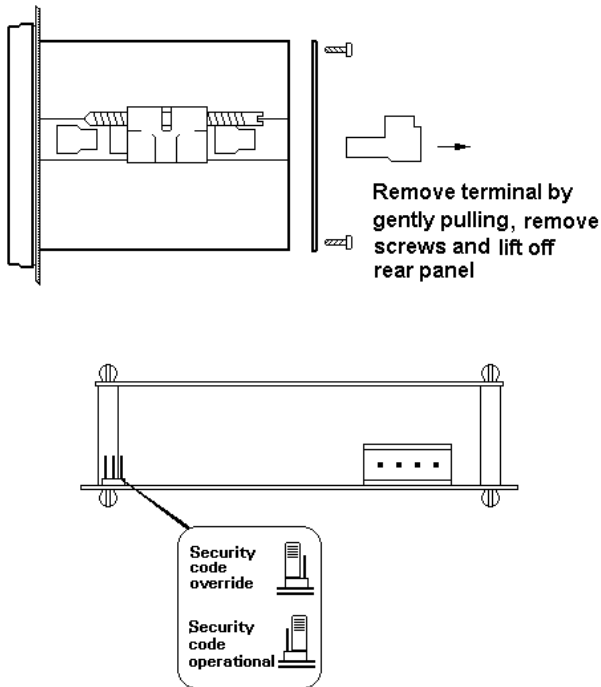

Fig 7 Location of security code override link
To gain access to the security code link, remove the instrument terminal block(s) by gently pulling. Unscrew the four corner screws securing the rear panel and lift off the panel which will reveal the link as shown in Fig 7.
- a. Remove the rear terminal block and the rear panel as shown in Fig 7.